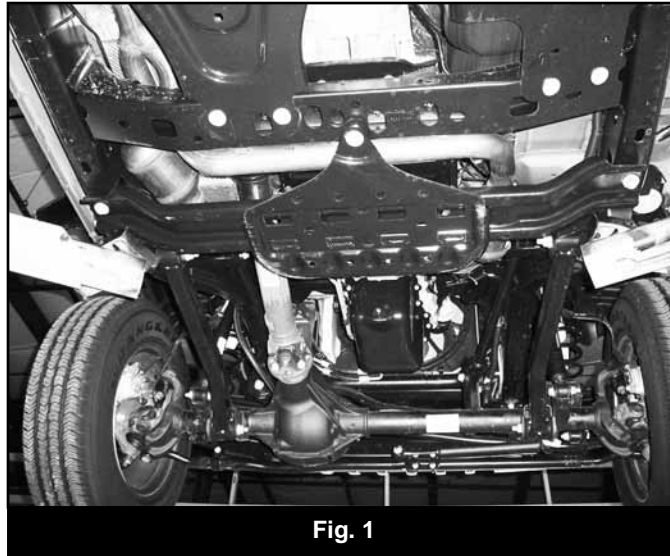

Fig. 1
3. If equipped, remove the three bolts mounting the transmission skid plate to the frame rails and transmission crossmember (Fig 1). This skid plate will not be reused. Retain the mounting hardware.